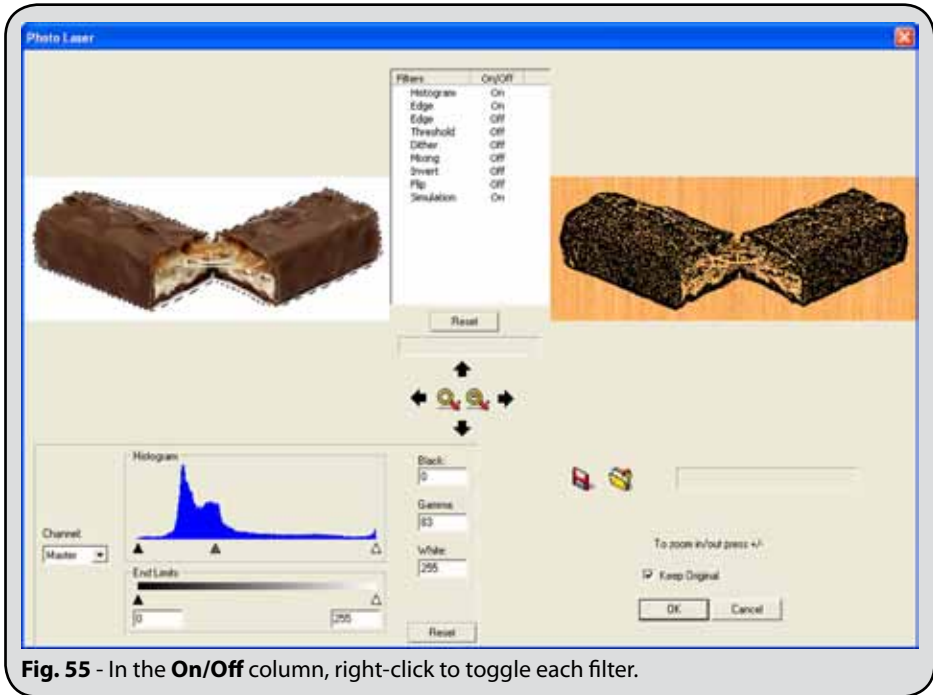

Fig. 55 - In the **On/Off** column, right-click to toggle each filter.
3. The **Photo Laser** dialog will preview the effect of applying the various filters (Fig. 55).